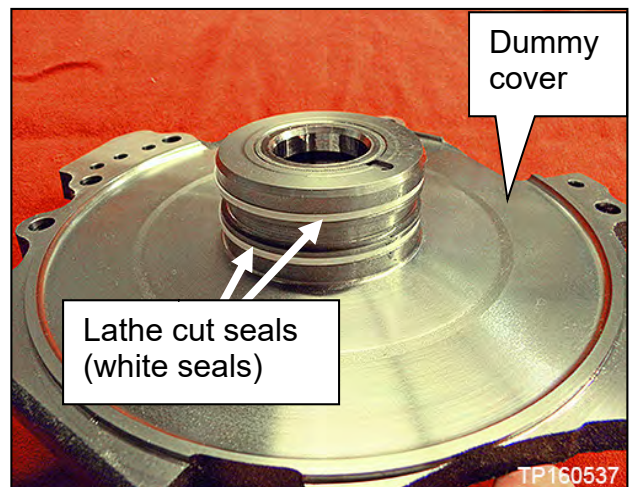

Figure 48
- Do **NOT** remove the lathe cut seals (white seals in Figure 48) from the dummy cover. These seals will be reused.